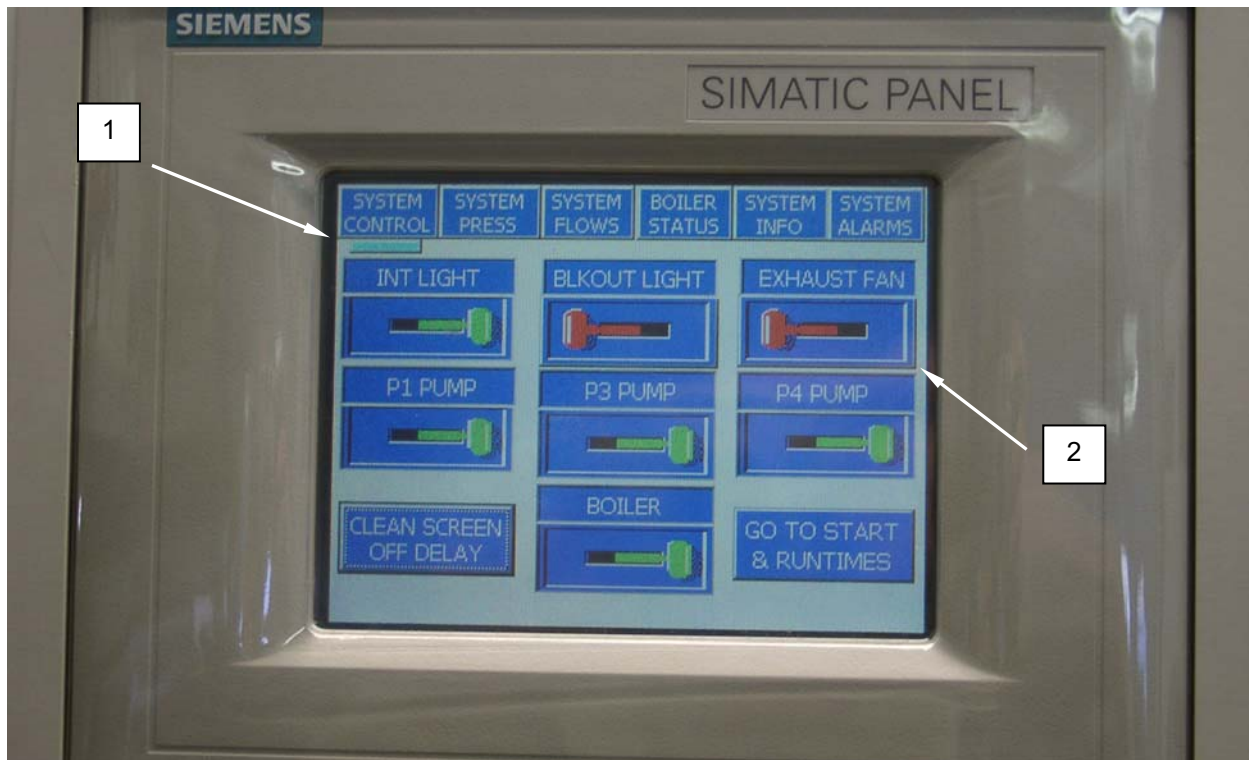

Figure 5. Operate the Exhaust Fans.
1. Ensure the System Control (**Figure 5, Item 1**) screen is displayed.
2. Turn the exhaust fan switch (**Figure 5, Item 2**) to the ON position. The switch will turn green when the switch is ON and red when the switch is OFF.